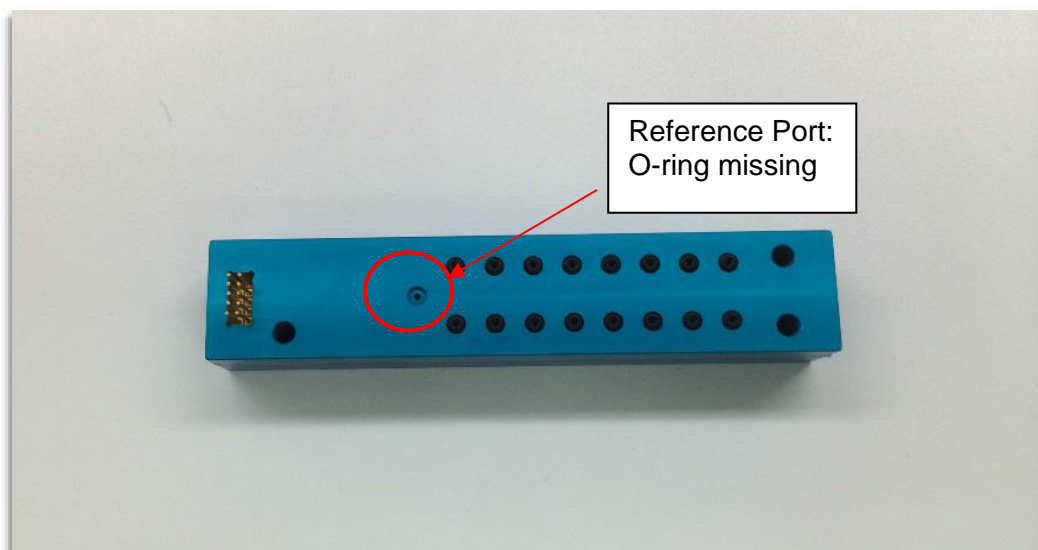

Figure 6: Module with O-rings
Step 5: Replace all O-rings using appropriate O-ring (PN# 5,6) that has been properly lubricated. It is important to install O-ring in the reference port even if an absolute unit is being used to avoid moisture collecting in internal cavity (See Figure 6).